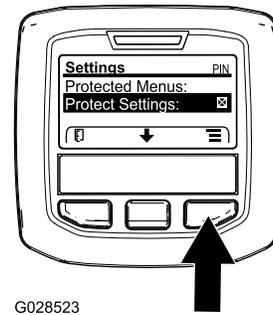

Figure 14
Note: If there is no “X” in the box to the right of Protect Settings entry, the sub-menus for L Boom, C Boom, R Boom, and Reset Defaults are not locked with the PIN (Figure 14).
Note: An “X” appears in the box to the right of Protect Settings entry (Figure 14).
- Press the right selection button to disable the GeoLink system (Figure 14).